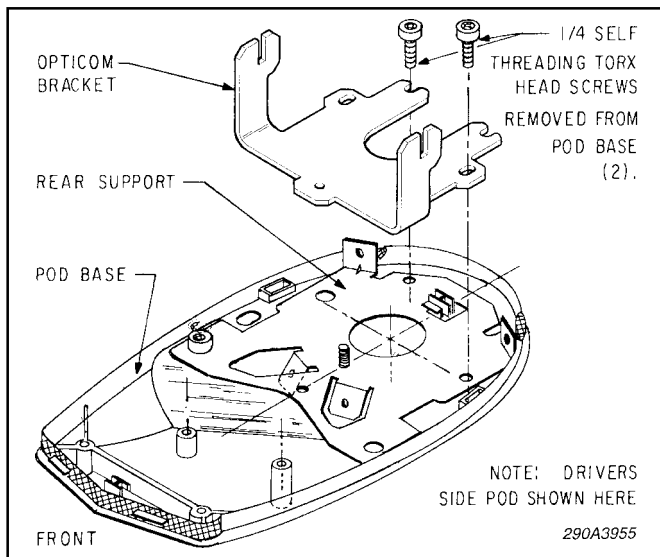

Figure 1.
3. See figure 1. Remove and retain two 1/4" diameter Torx head screws which secure the dome to the extrusion.
4. Secure the bracket in the pod using the previously removed 1/4" diameter Torx head screws as shown in figure 1.